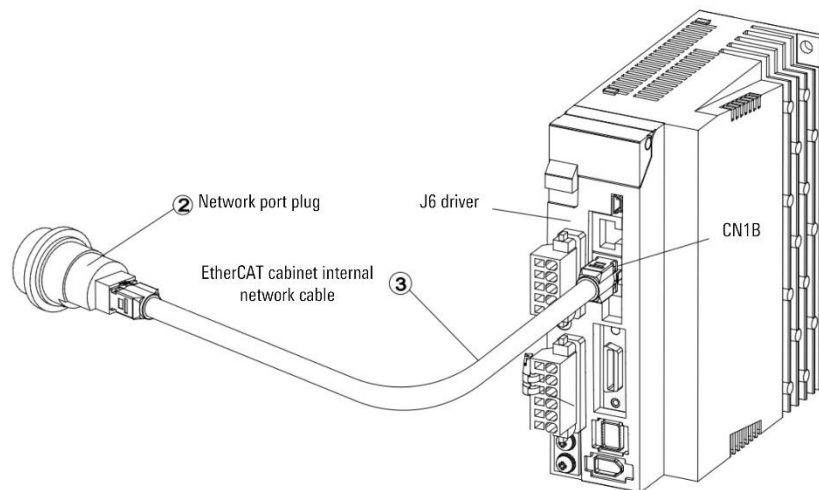

Figure 11-7 Diagram of the CN1B interface connecting the J6 driver
Step3. Connect one end of the ③ EtherCAT cabinet network cable to the ② network port plug, and the other end to the CN1B interface of the J6 driver. Arrange the cables in the cabinet reasonably (refer to Figure 11-7).